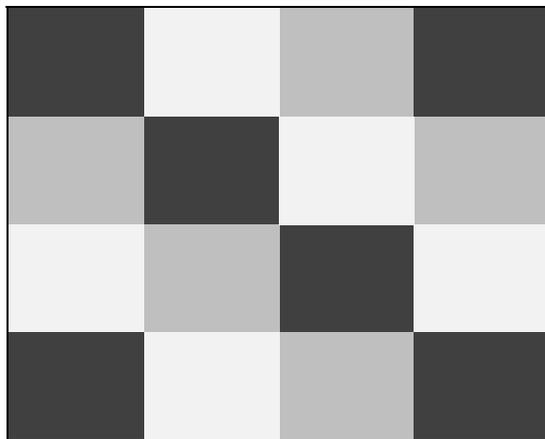

Figure 5-2. Display Test Pattern
2. Press **F3** **CALIBRATE** . The display will show a dark test pattern, see Figure 5-2